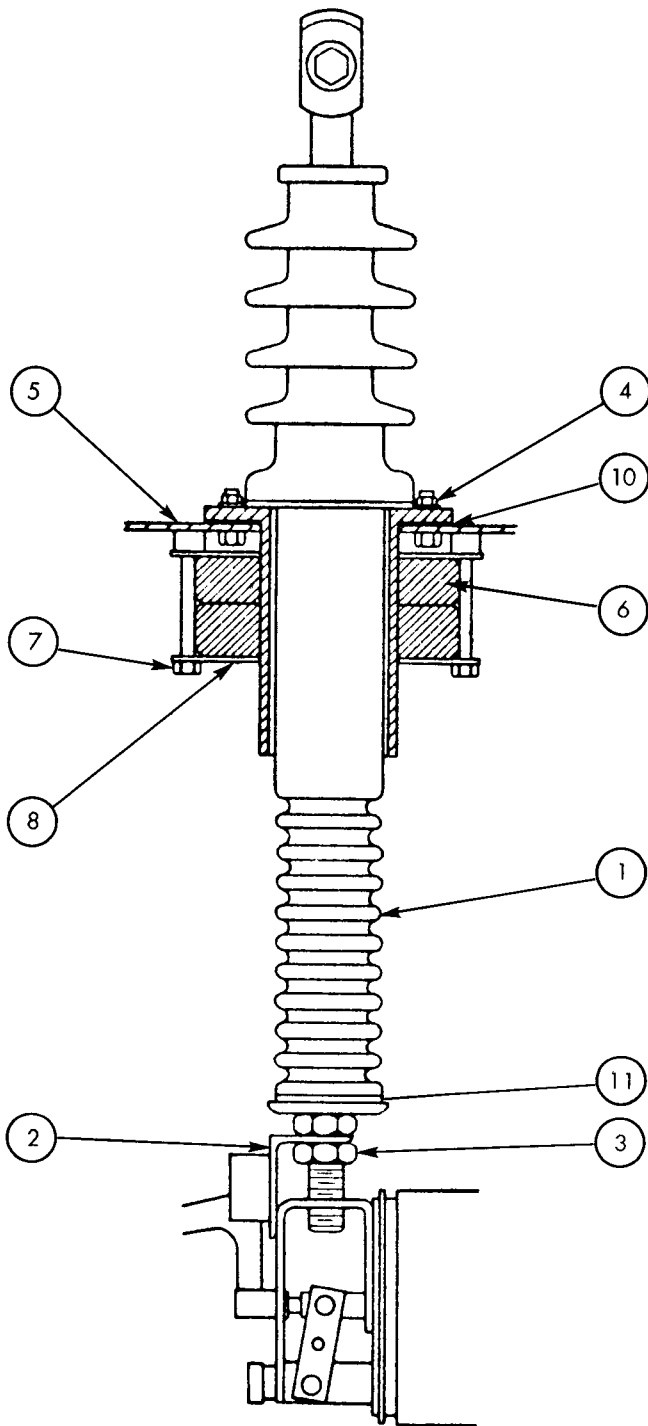

Fig. 19. Bushing Assembly and Sensors.
SENSORS (OVERCURRENT AND GROUND) (Figure 19)
Any one of the six bushing assemblies (see Fig. 19) may be readily exchanged by removing the LOWER CONTACT NUT (3) that clamps the interrupter SUPPORT BRACKET (2), and then removing the three FLANGE NUTS (4).